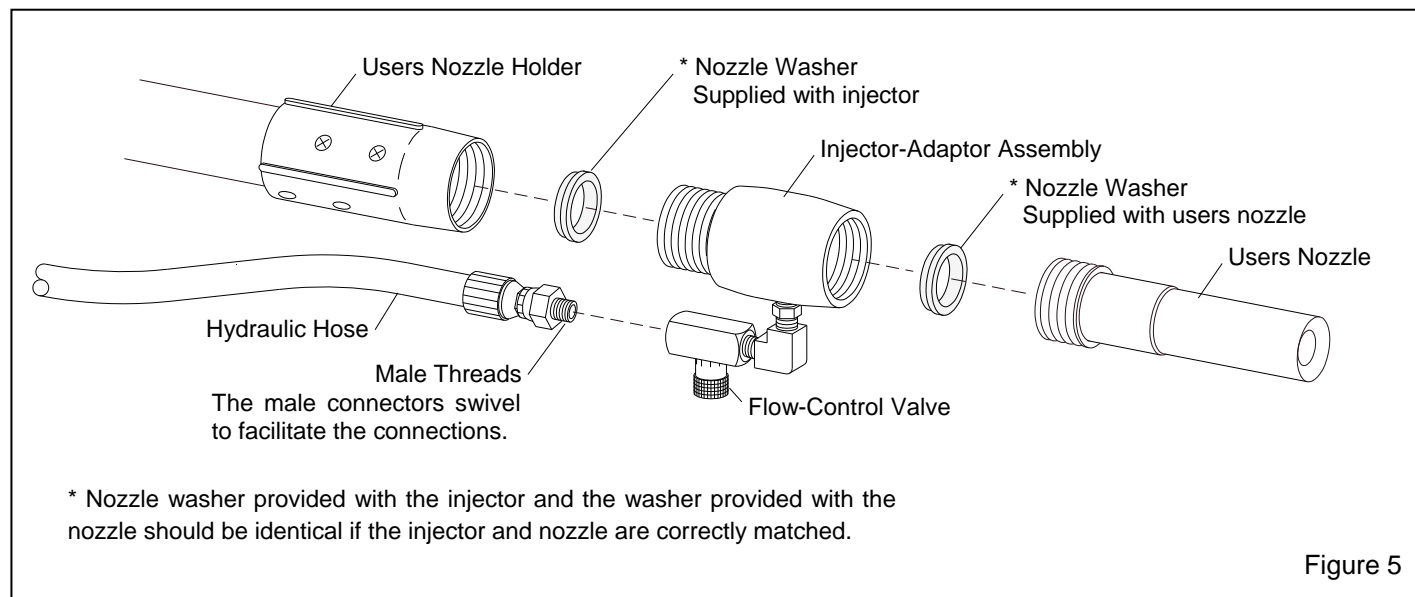

Figure 5
## 2.4 Attach Injector to User-Supplied Blast Hose, Figure 5
**2.4.1** Place the nozzle washer provided with the injector into the nozzle holder, and thread the adaptor assembly into the holder, as shown in Figure 5. Thread the injector into the nozzle holder to firmly compress the washer between the injector and holder. NOTE: Rotate the flow-control valve, positioning the knob so the operator with a gloved hand can turn the knob to regulate water flow.
**2.5 Connect Hydraulic Hose Between the Injector and Pump Module, Figures 5 and 6**
**2.5.1** Apply thread sealant to the male threads only, on one end of the 50-ft. hydraulic hose and connect it to the injector-adaptor as shown in Figure 5. The male connectors on both ends of the hydraulic hose swivel to facilitate the connections to the injector and pump module.